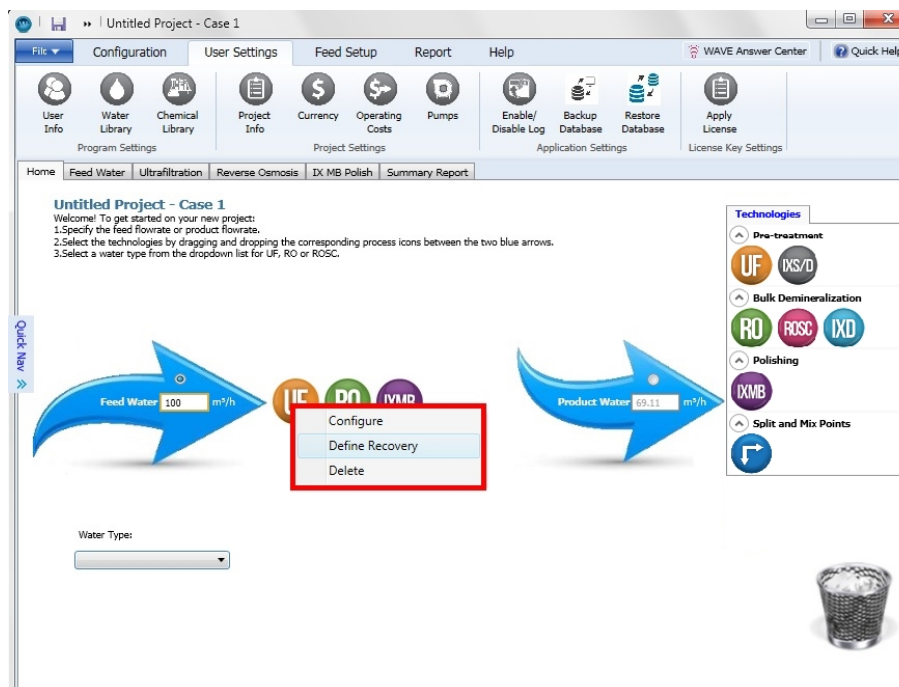

Figure 27. Specification of preliminary recovery
- Users can define a preliminary recovery for each icon and thus define either the feed flowrate and recovery or product flowrate and recovery (as shown in Figure 27).